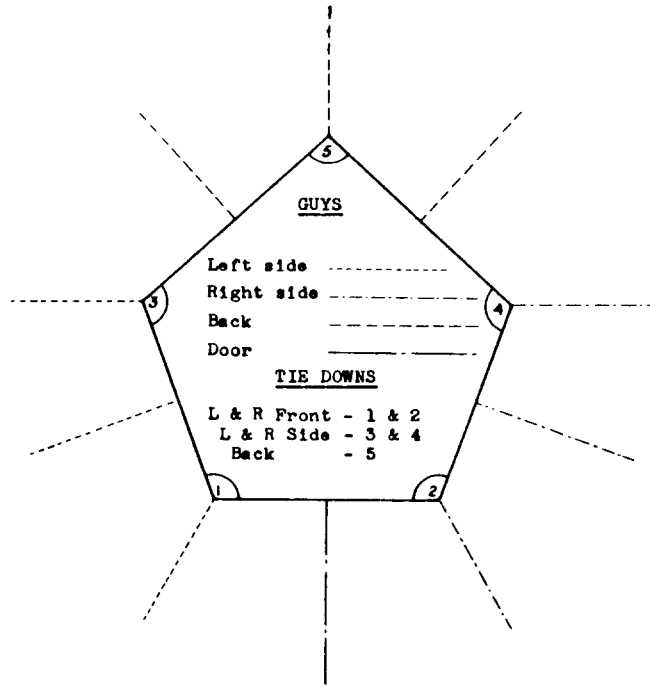

Figure 3-5 Guys and Tie-Downs
2. The No 1 works on the left side of the tent and is responsible for (see Figure 3-5):
3. The No 2's duties are the same as the No 1's, but on the right side of the tent (see Figure 3-5).
4. The No 3 is responsible for (see Figure 3-5):